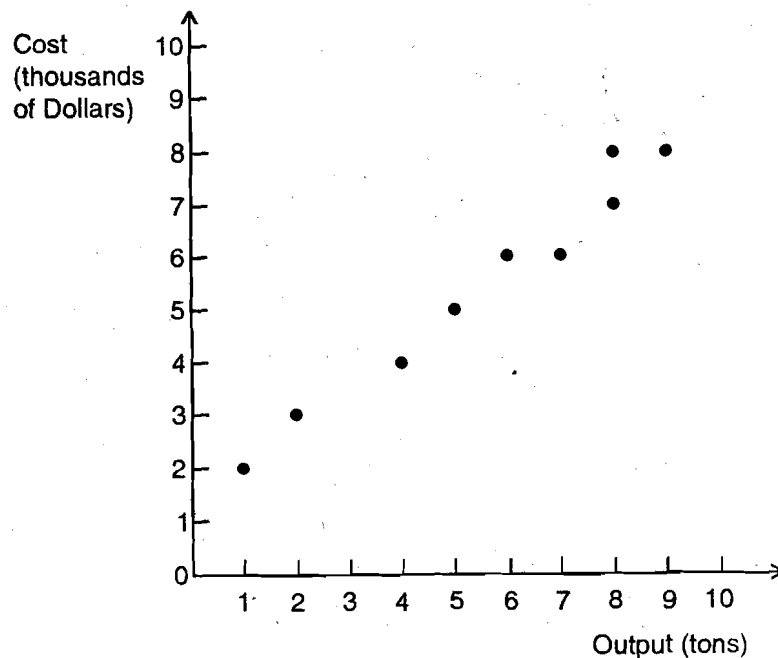

Fig. 3: Scatter Diagram
- 1) Suppose that x_i denote the output for the i th month and y_i denote the cost for the i th month. Then we can plot the graph for the pair (x_i, y_i) of the values given in Table 5. Then we get the scatter diagram as shown in Fig. 3 in the next page.
- 2) Now to find the least square regression line, we first calculate the sums S_{xx} and S_{xy} from Eqn.(1) and (2).